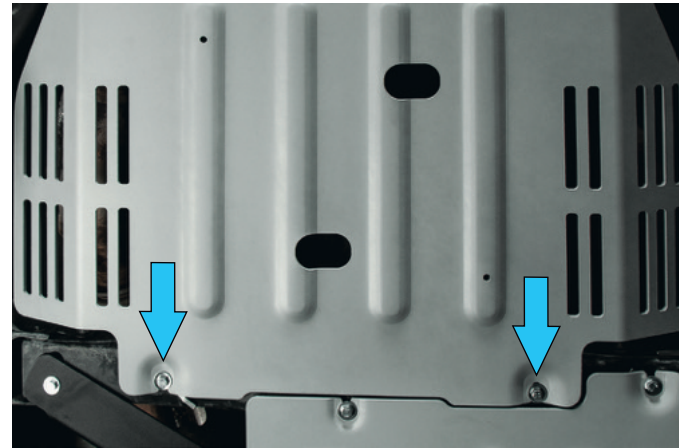

Fig. 8
8. Put the gearbox skid plate (item 1) on installed bolts M8x25 and washers 8 from step 6 as shown in fig.8.